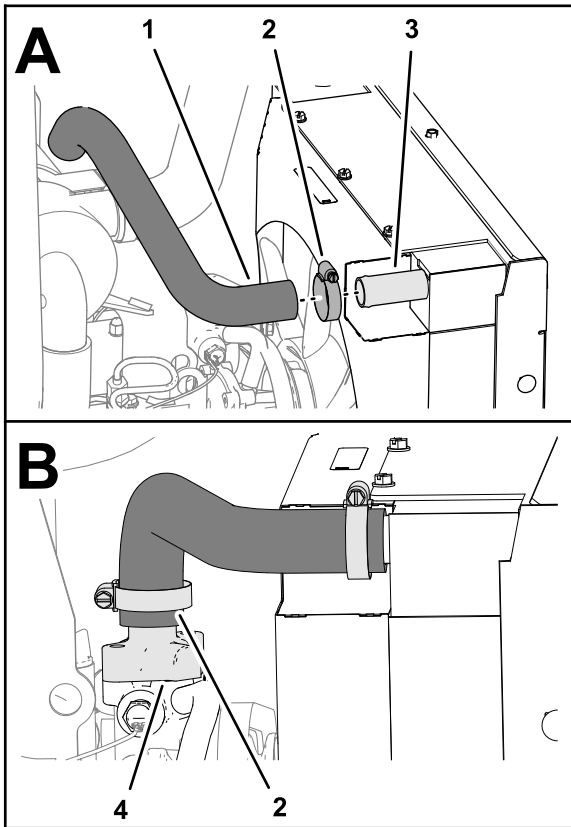

Figure 44
1. Loosely assemble the upper radiator hose to the inlet of the radiator (Figure 44) with a hose clamp that you removed in 5 Removing the Radiator Hoses (page 8).
2. Assemble the other end of the upper radiator hose to the thermostat housing of the engine (Figure 44) with the other hose clamp that you removed in 5 Removing the Radiator Hoses (page 8).